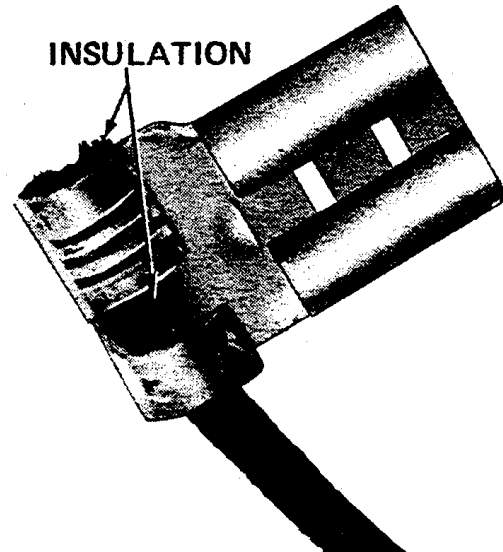

Figure 3
- 3. Inspect the wire to flag terminal for evidence of conductor insulation extending within the confines of the wire crimp area. See figure 3.